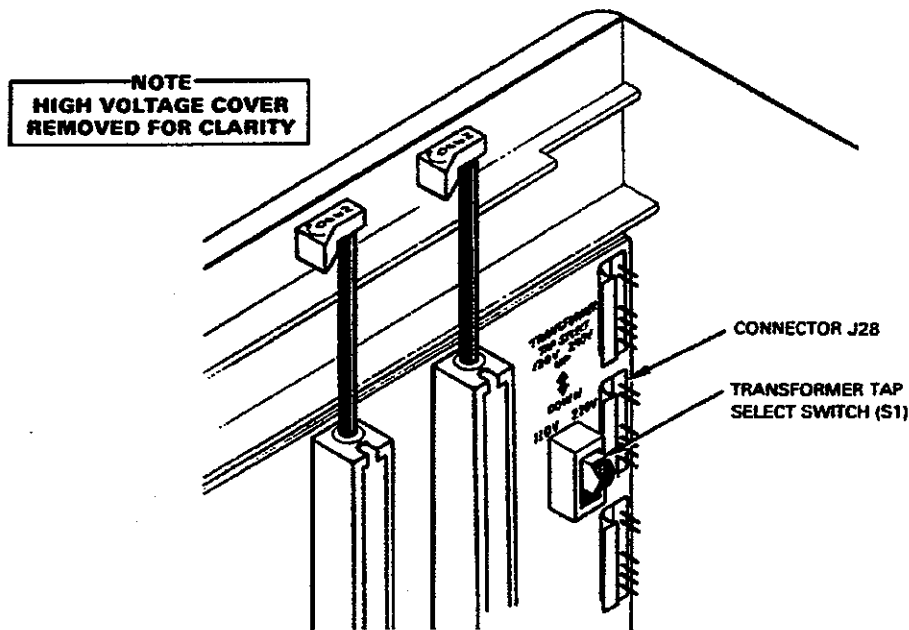

Figure 4 Transformer Tap Switch (S1) on Mother PC Board
The transformer tap select switch (S1) is located near the rear of the Mother Printed Circuit Board (PCB). See Figure 4. For a GC configured for 110/120V operation, UP (high) is 120V nominal and DOWN is 110V nominal. For a GC configured for 220/240V operation, UP is 240V nominal and DOWN (low) is 220V nominal. Instruments are shipped with this switch in the high voltage (UP) position. These two voltage configurations permit operation of the GC at most sites.
1. Over a 24-hour period, determine the full range of line voltage variations. If the voltage is between 99V and 121V (or 198V and 242V), set the switch to the low position. If the voltage is between 108V and 132V (or 216V and 264V), select the high (UP) setting. If the voltage is not within either of these ranges, consult Customer Support to see if you will require a power line conditioner.
- Locate switch S1 on the Mother PCB (see Figure 4). It is shipped in the correct position for your voltage range. If there is a problem in the low position, contact Customer Support to see if you require a power line conditioner.